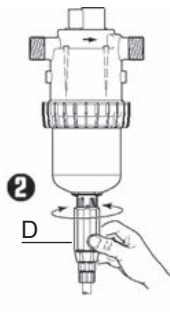

Fig. 13
- Screw or unscrew the adjusting nut (Fig. 13-D) so as to bring the top of the nut into line with the desired injection rate